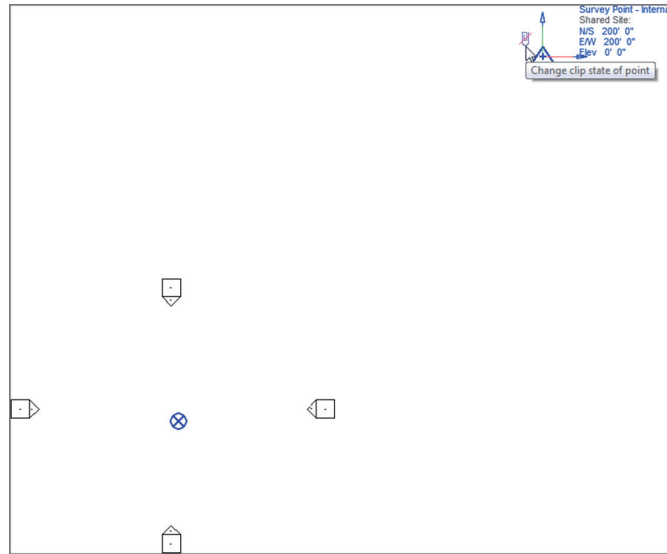

FIGURE BC3.26: Altering the survey point
6. Deselect the blue paper clip, as shown in Figure BC3.26.